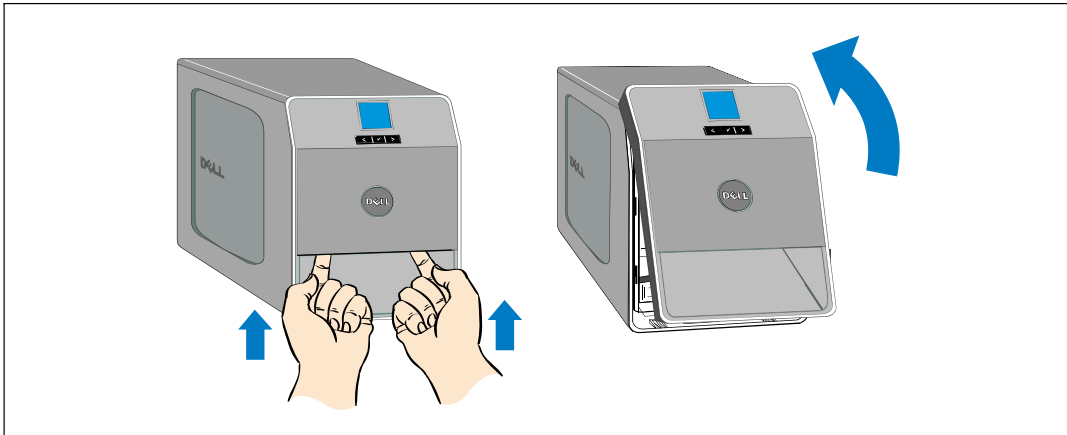

Figure 10. Removing the UPS Front Cover
- 2 Remove the UPS front cover (see Figure 10).